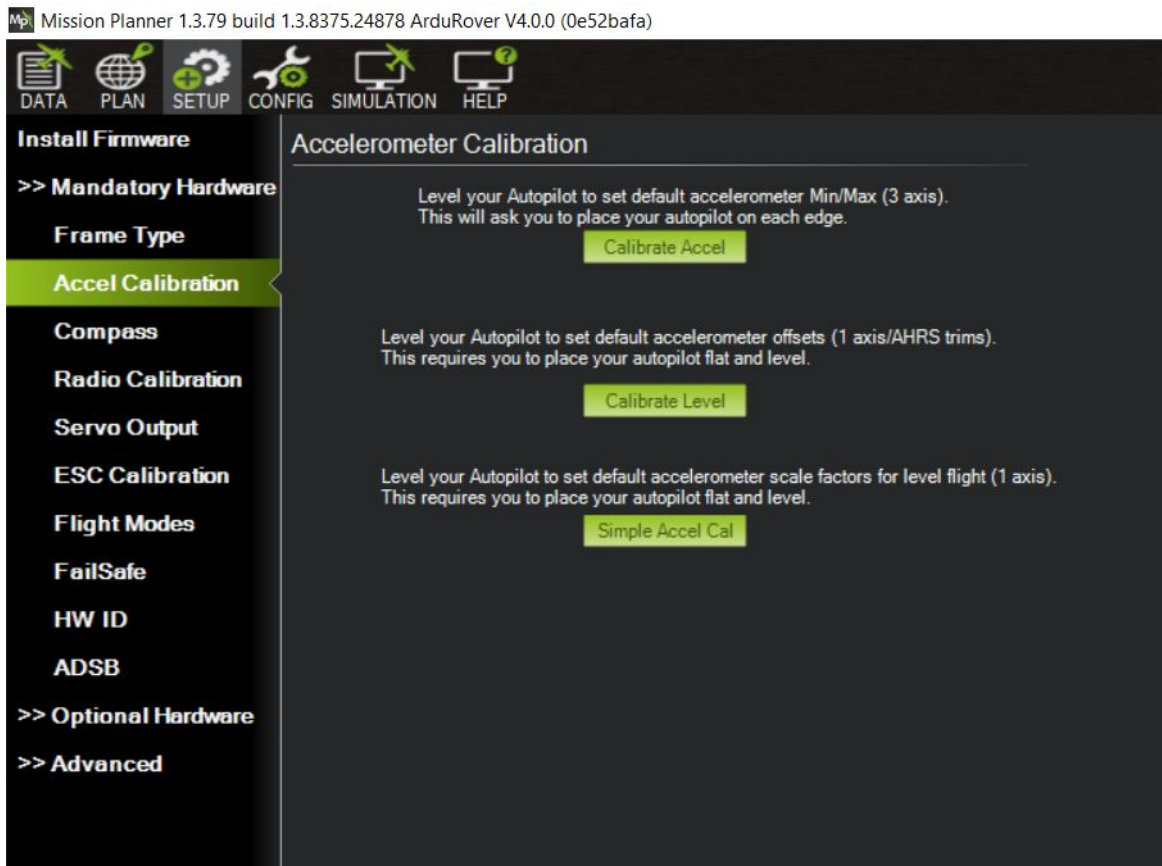

Figure 53: Accel Calibration
13. Select Calibration Level. (See Figure 53)